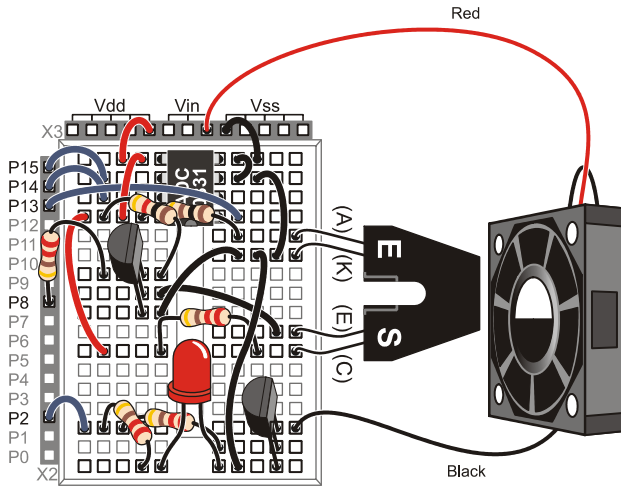

Figure 5-3
- (1) BS170 MOSFET Transistor
- √ Build the circuit shown in Figure 5-2 and Figure 5-3, leaving the ADC circuit on the board for later use. Set aside the BS170 MOSFET transistor for the moment.